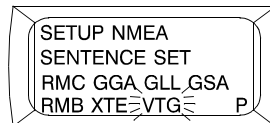

Figure 24. NMEA Sentence String Display
- Press the up arrow key (figure 1, item 2) or down arrow key (figure 1, item 3) to change the NMEA sentence string (figure 24).